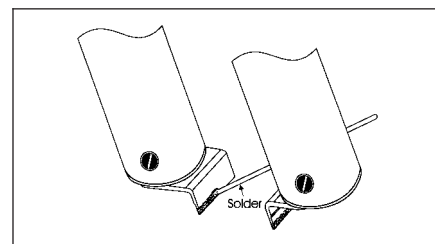

Figure 2 Tin Tips
8. Tin bottom and inside edges of tips with solder. (See Figure 2.)